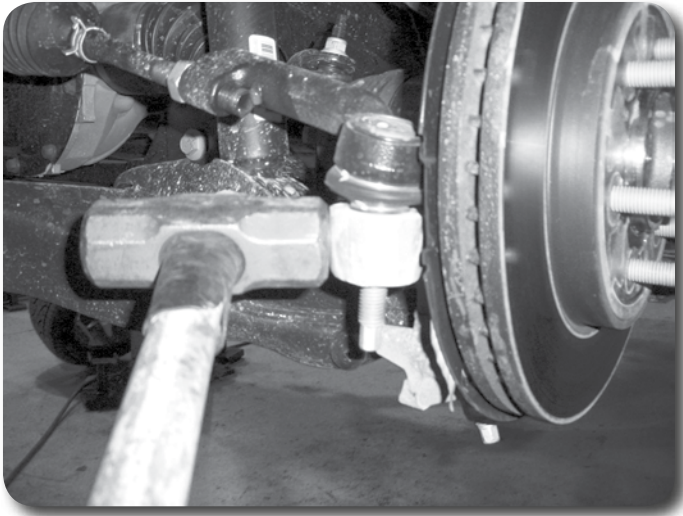

Figure 4
10. Disconnect the tie rod ends from the steering knuckles Figure 4. Remove and retain the mounting nuts. Strike the steering knuckle near the tie rod end to dislodge the end. Take care not to strike the tie rod end.